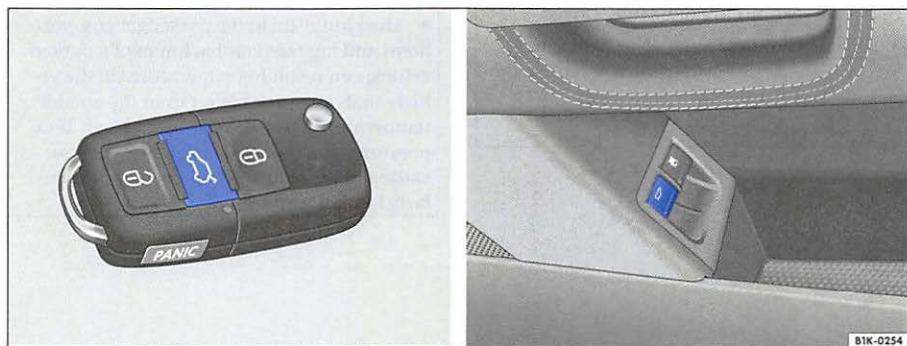

Fig. 30 Left illustration: remote control key, right illustration: rear lid release button in the driver door
- Press the button in the remote control key ⇒ fig. 30.
- Pull the rear lid release switch in the driver's door ⇒ fig. 30.